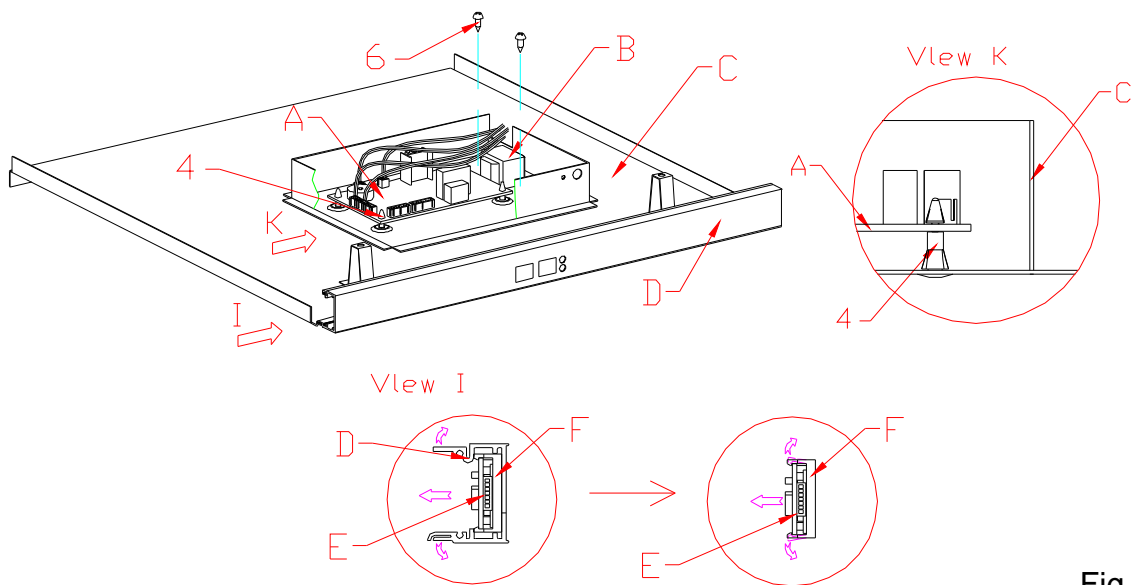
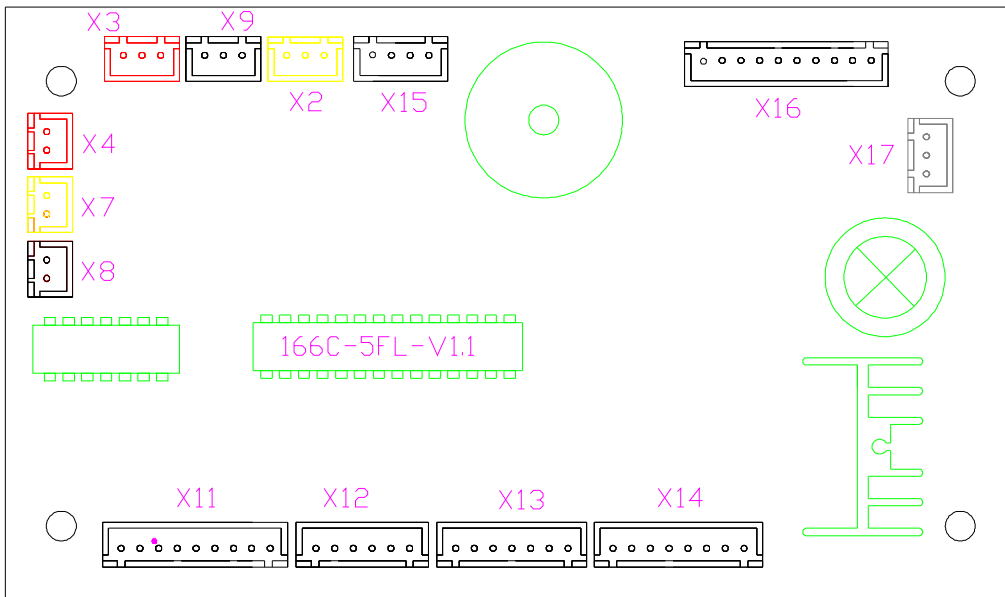

Fig. 9
Fig. 10
- 3 >. If the above a~e point is line in the situation, and every components of the machine is normal; if there is any different, and firstly check the abnormal components and their connection wire. If the connection is tight, replace the components. If the replacement fail, it can be judged as control panel’s fault, please replace it with the same module. (→9、→10、→11、) ( Fig.9 & Fig.10 & Fig.11 & Fig.12.1 & Fig.12.2 & Fig.12.3)
Replace the displace PCB (→8) (Fig.9).
1 >. Disconnect all connectors one by one, pinch the head of the plastic nails(4),take up the PCB at the same time, take away the PCB from nails, replace it please( Fig. 9) ( Vlew K ),
Open the fixing part (D) slightly according to the arrowhead in the view I, take apart the displace PCB support (F) ,then pull 4 hooks of the support (F) according to the arrowhead, take apart the displace PCB(E),disconnect the connectors, replace it please.( Fig. 9) ( Vlew I )
- Layout of main PCB ( Fig. 10)
- 4 .If it is PCB broken,replace it please. (Fig. 9)